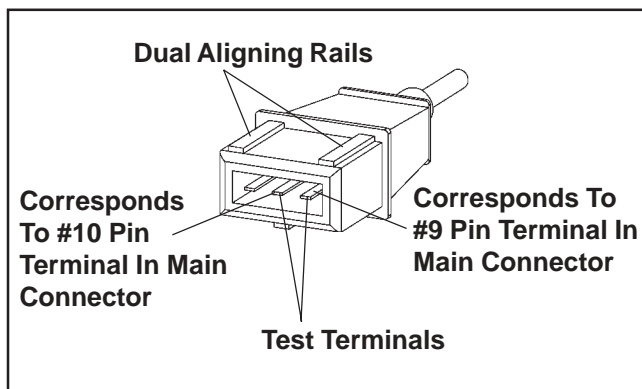

Figure 5B-4. Speed Sensor Connector.
6. Disconnect the speed sensor connector from the wiring harness. It is the connector with one heavy black lead (see Figure 5B-4). Viewing the connector as shown (dual aligning rails on top), test resistance between the terminals indicated. A reading of $750\text{-}1000 \Omega$ should again be obtained.